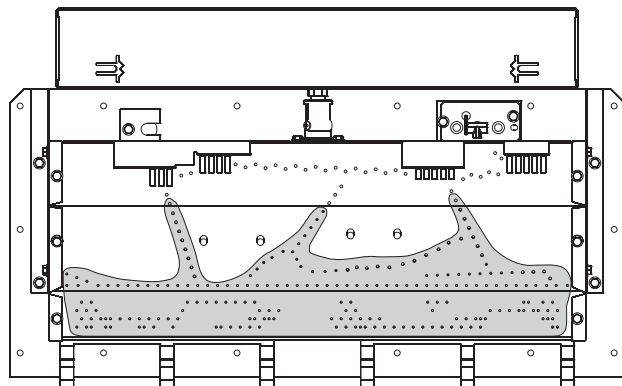

Figure 65
18. After all logs are properly positioned, place small "dime" size pieces of Rockwool lightly across the front round "blueflame" ports. Place the ember material (Rockwool pieces) side by side. Do not stack more than one layer of embers across the burner ports. **See Figure 65.**